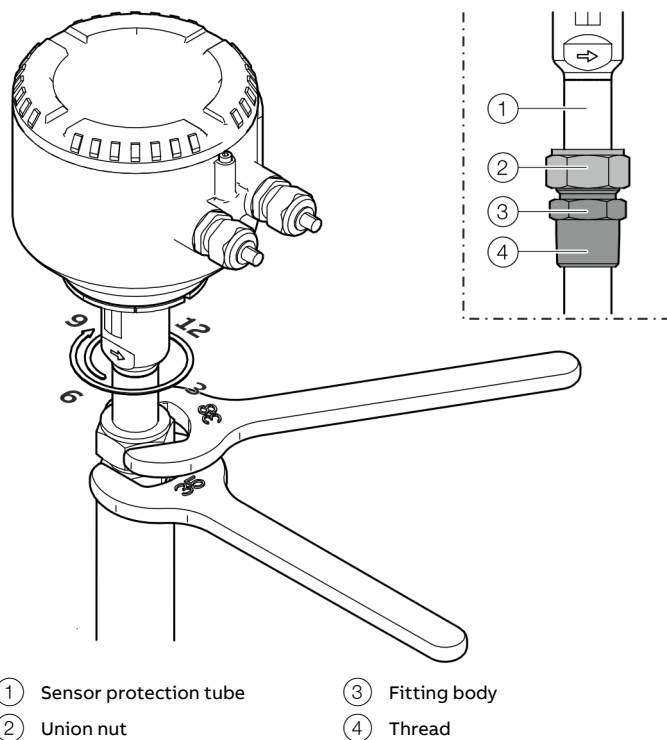

Figure 22: Tighten sensor
5. Using a suited marker pen, mark the orientation and height of the sensor on the sensor protection tube, compression fitting and the welding adapter (see Figure 21, pos. ③). The marking on the union nut is also used as a starting position (6 o'clock position, see Figure 22) for the tightening of the compression fitting